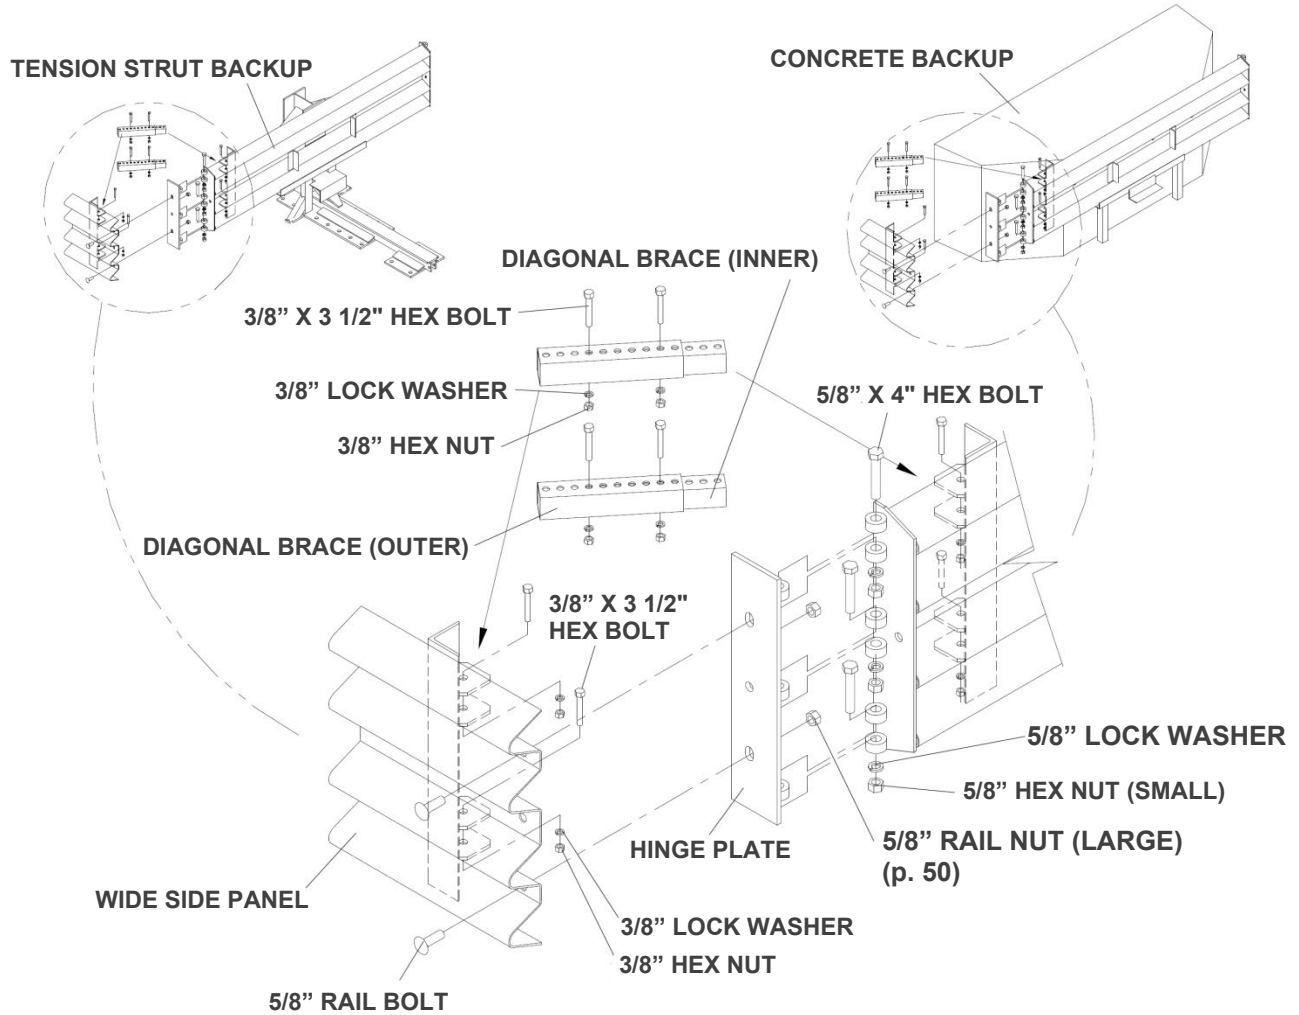

Figure 55
5) Attach Side Panels and/or Transition Panels to Backup Assembly (Figure 55).
- Attach Transition Panel or Side Panel assembly to side of Backup using 5/8" x 4" hex bolt, 5/8" lock washer and 5/8" hex nut at three places on each side of Backup (Figure 55).
- Secure each diagonal brace with 3/8" hex bolt, 3/8" lock washer, and 3/8" hex nut (two places per brace) as shown in Figure 55.